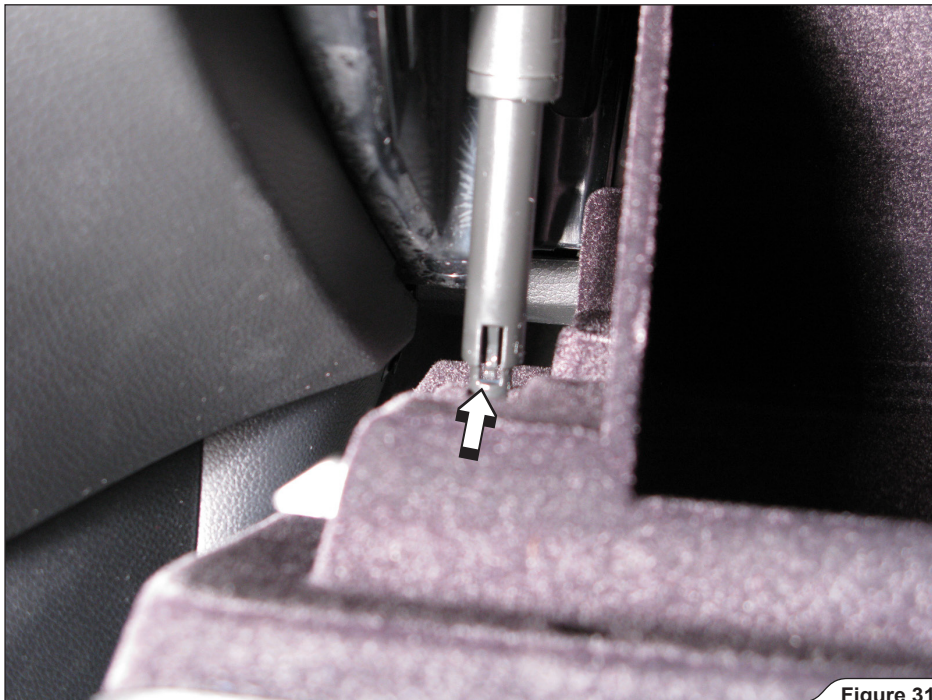

Figure 31
22. **For fuse box powered Wireless only:** push the glove box damper forward, unpin and remove glove box cover from the vehicle as shown (Figure 31, 32).